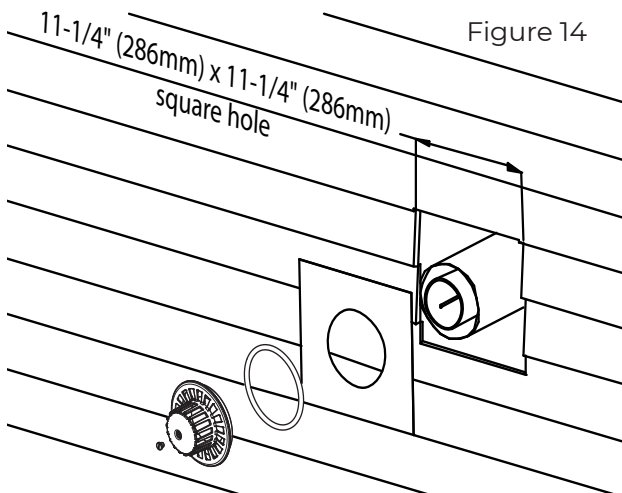

Figure 14
- (B) vent pipe
- (C) vent-air intake pipe
- (D) rod
- The hole at the outside of the wall must be a square of 11-1/4" (286 mm) X 11-1/4" (286 mm) (see figure 14).
- From the outside of the wall, screw the rod (D) slightly onto support located inside the appliance flue outlet.
- Wrap the vent-air intake pipe (C) with the provided insulation (i) (foil side out) and place the provided strip of tape (H) down the seam to secure it.
- Slide the vent pipe (B) and vent-air intake pipe (C) through the hole in the wall, and connect them to the appliance flue outlet and air intake, respectively.
- The outdoor mounting plate (F) and the silicon-rubber ring (G) should be installed between the vent cap (A) and the exterior wall. Note: For additional security the outdoor mounting plate (F) can be attached to the outside of the wall using the appropriate hardware for mounting to the surface of the building. The outdoor mounting plate (F) must be positioned flush to the wall and sealed with a non-hardening mastic (silicone caulk). Position the outdoor mounting plate (F) so that the vent-air intake pipe (C) has a slight downward slope of 1/4" per foot of venting to the outside.
- Slide the vent cap (A) into position and secure into place using the provided nut (E). Tighten nut (E) down until the vent cap (A) leans against the outdoor mounting plate (F) (see figures 14 and 15).